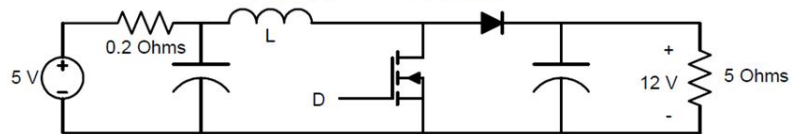

Figure 3.1 Boost converter
5. Figure 3.1 shows a boost (up) converter supplying 12 V to a load of 5 Ω from a 5 V source having an internal resistance of 0.2 Ω . Determine the duty ratio D at which the converter operates. (You may neglect semiconductor device drops in your calculations.)